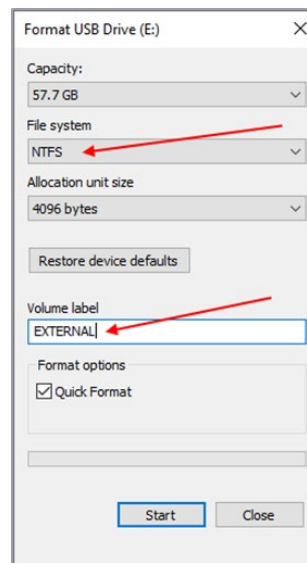

Figure 28. Select NTFS for file system and set volume label to “EXTERNAL”
**Step 2.** Select NTFS for File System and set the volume label to “EXTERNAL” (Optional) (Figure 28)